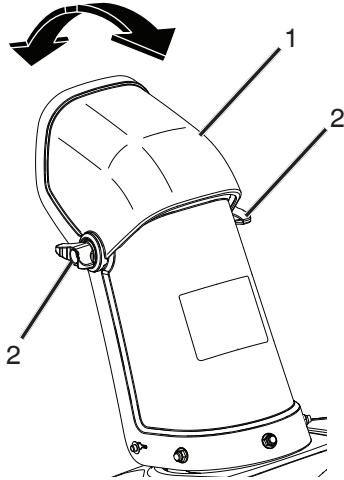

Figure 19
2. To raise or lower the angle of the chute deflector, loosen both chute deflector knobs on the chute deflector and move the chute deflector up or down to desired position and retighten knobs (Figure 19).